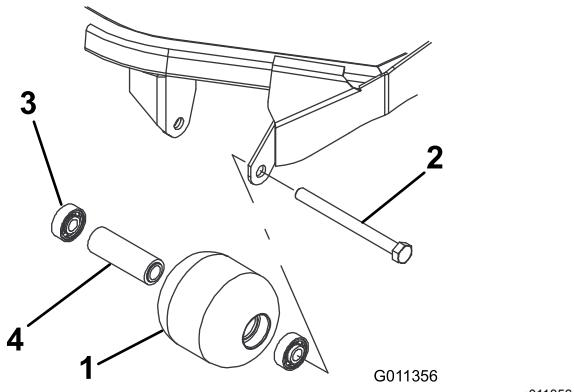

Figure 80
1. Remove the roller-mounting bolt (Figure 80).
4. Inspect the roller housing, bearings, and bearing spacer for damage (Figure 80). Replace any damaged components and assemble them.
1. Press the first bearing into the roller housing (Figure 80). Press on the outer race only or equally on the inner and outer race.
2. Insert the spacer (Figure 80).
3. Press the second bearing into the roller housing (Figure 80). Pressing equally on the inner and outer race until the inner race contacts the spacer.